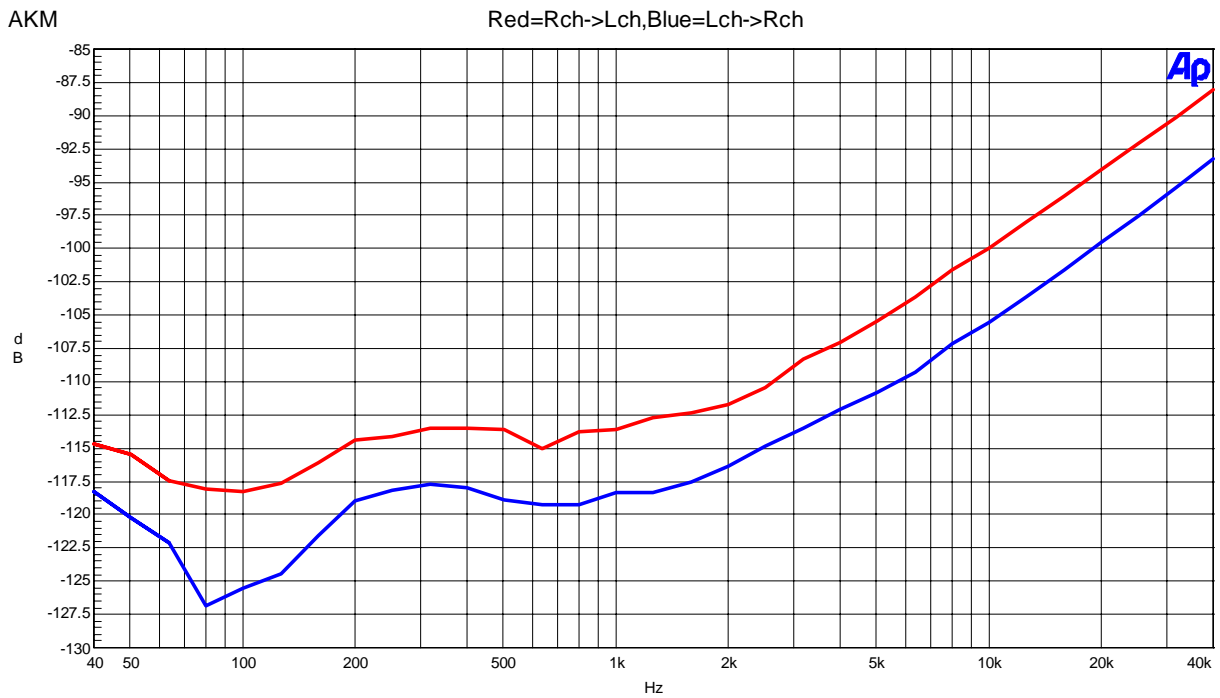

Figure 42. Cross-talk (Input Level=0dBFS)
- Figure 42. FFT (Input Frequency =1kHz, Input Level =-60dBFS)